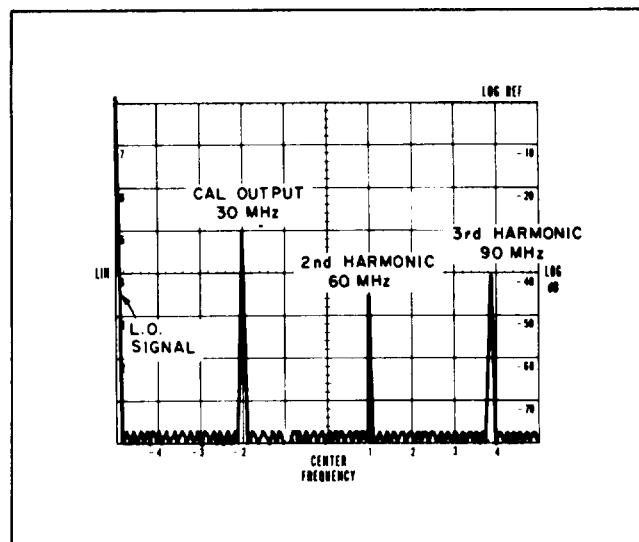

Figure 4-1. CRT Display, 0 to 100 MHz
b. Connect CAL OUTPUT to RF INPUT using a BNC-to-type N cable. The analyzer display should be similar to Figure 4-1. Adjust FREQUENCY control to align the LO feedthrough signal on the left (-3) graticule of the CRT.